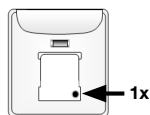

Fig. 3
- A. Press and release the program button on the back side of the secondary control once. The LED will flash green. (Fig. 3)